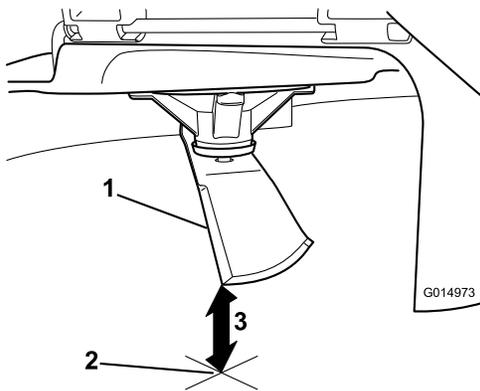

**Figure 55**
4. Rotate the same blade 180 degrees so that the opposing cutting edge is now in the same position (Figure 55).